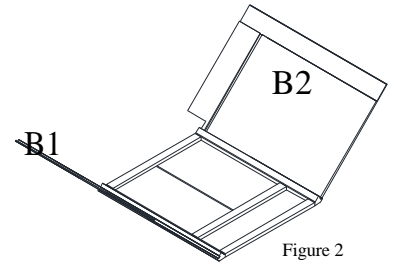
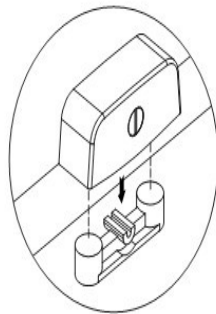
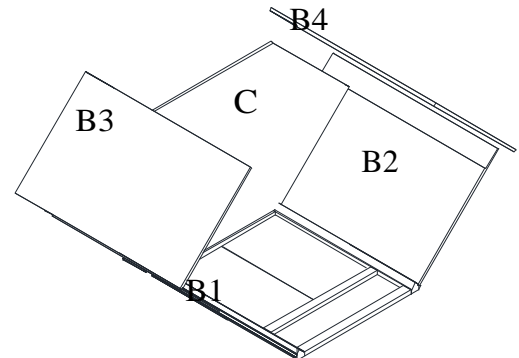

Figure 2
Figure 4
Figure 5
2. Installing the Side Panels (Figure 2): Insert left side panel (B1) and right side panel (B2) into the grooves of the face frame (A) and align the cam lock connectors (Figure 2). Lock the cam with a screwdriver by turning the screw 180° degrees clockwise (Figure 4)
4. Installing the Rear Side Panel (Figure 5): Insert rear left side panel (B3) and right side panel (B4) into the grooves of the side panels (B1,B2) and align side panels, bottom panel with rear side panels, lock each cam lock connectors (Figure 2) with a screwdriver by turning the screw (Figure 4)